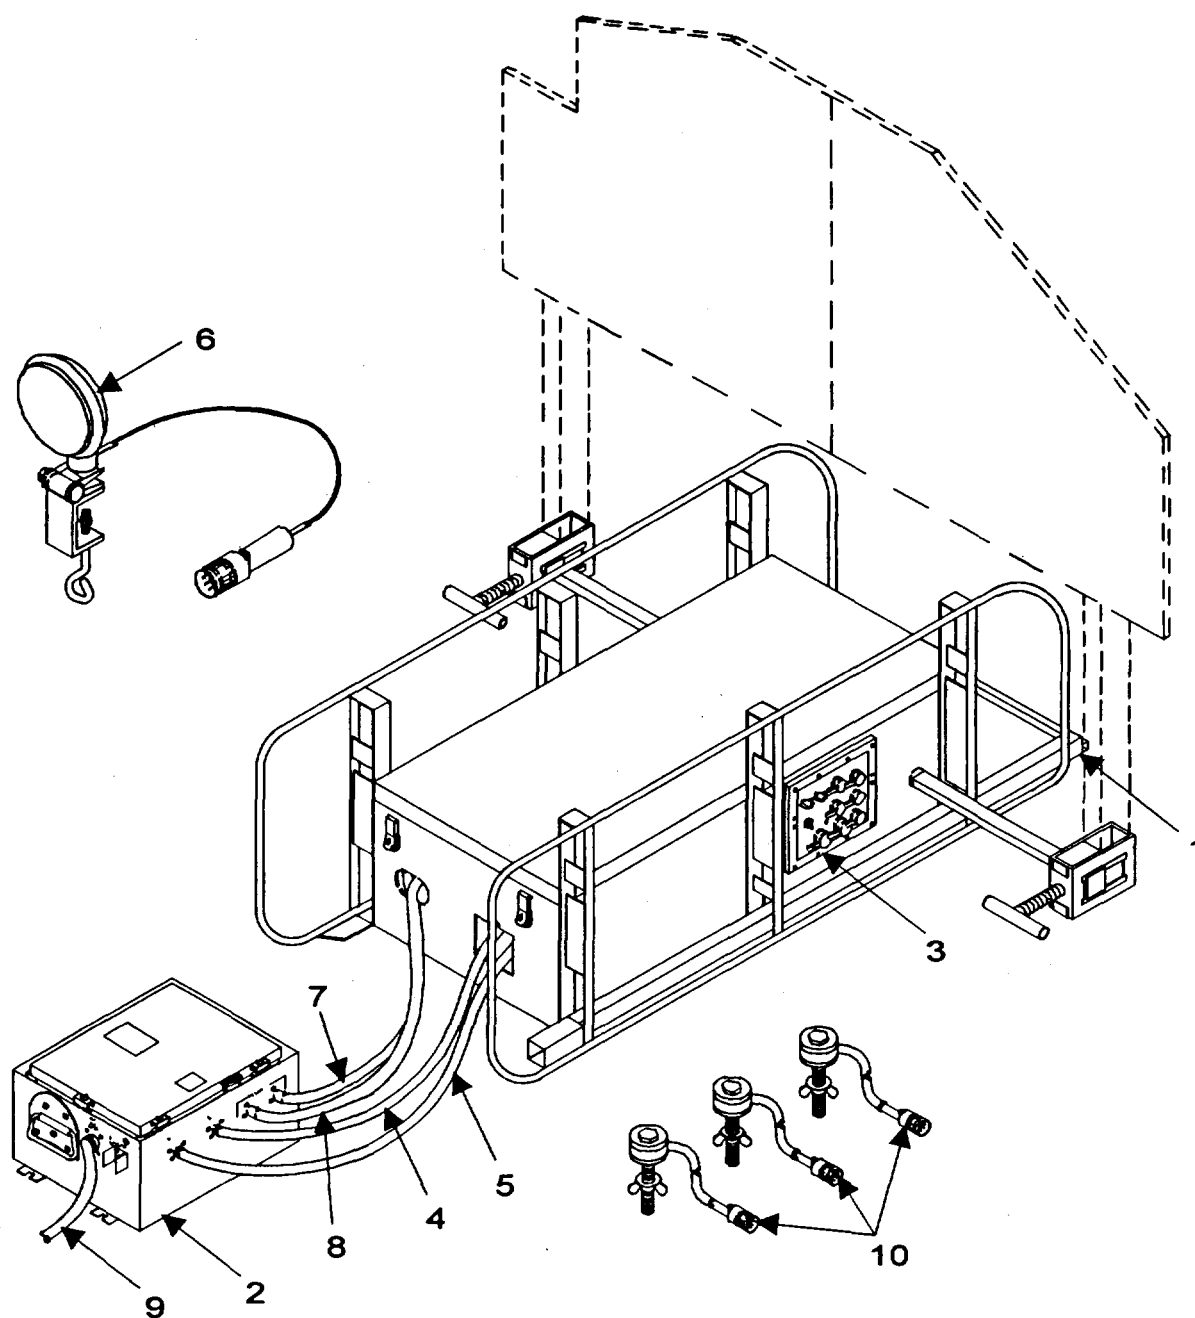

Figure 2-7. Preparation for Use of the Computer-Controlled THM/TG with Battery Eliminator.
- (11) Position armor target kill simulator in protected area. Clear brush and other flammable material away from ATKS. Connect the simulator to SMOKE SCORER or HOSTILE FIRE connector on control assembly. Connection to the SMOKE SCORER connector activates the ATKS when target is hit and goes down. Connection to the HOSTILE FIRE connector activates the ATKS when programmed in the scenario or commanded to do so by the radio controlled transmitter. Connection to the TIU causes the ATKS to respond to the function of the connector that the TIU is connected to on the control assembly.
c. Assembly and Preparation of Computer-Controlled THMITG with Battery Eliminator. To assemble and prepare the computer-controlled THM/TG with battery eliminator for operation, refer to figure 2-7 and FO-3 and perform the following steps: